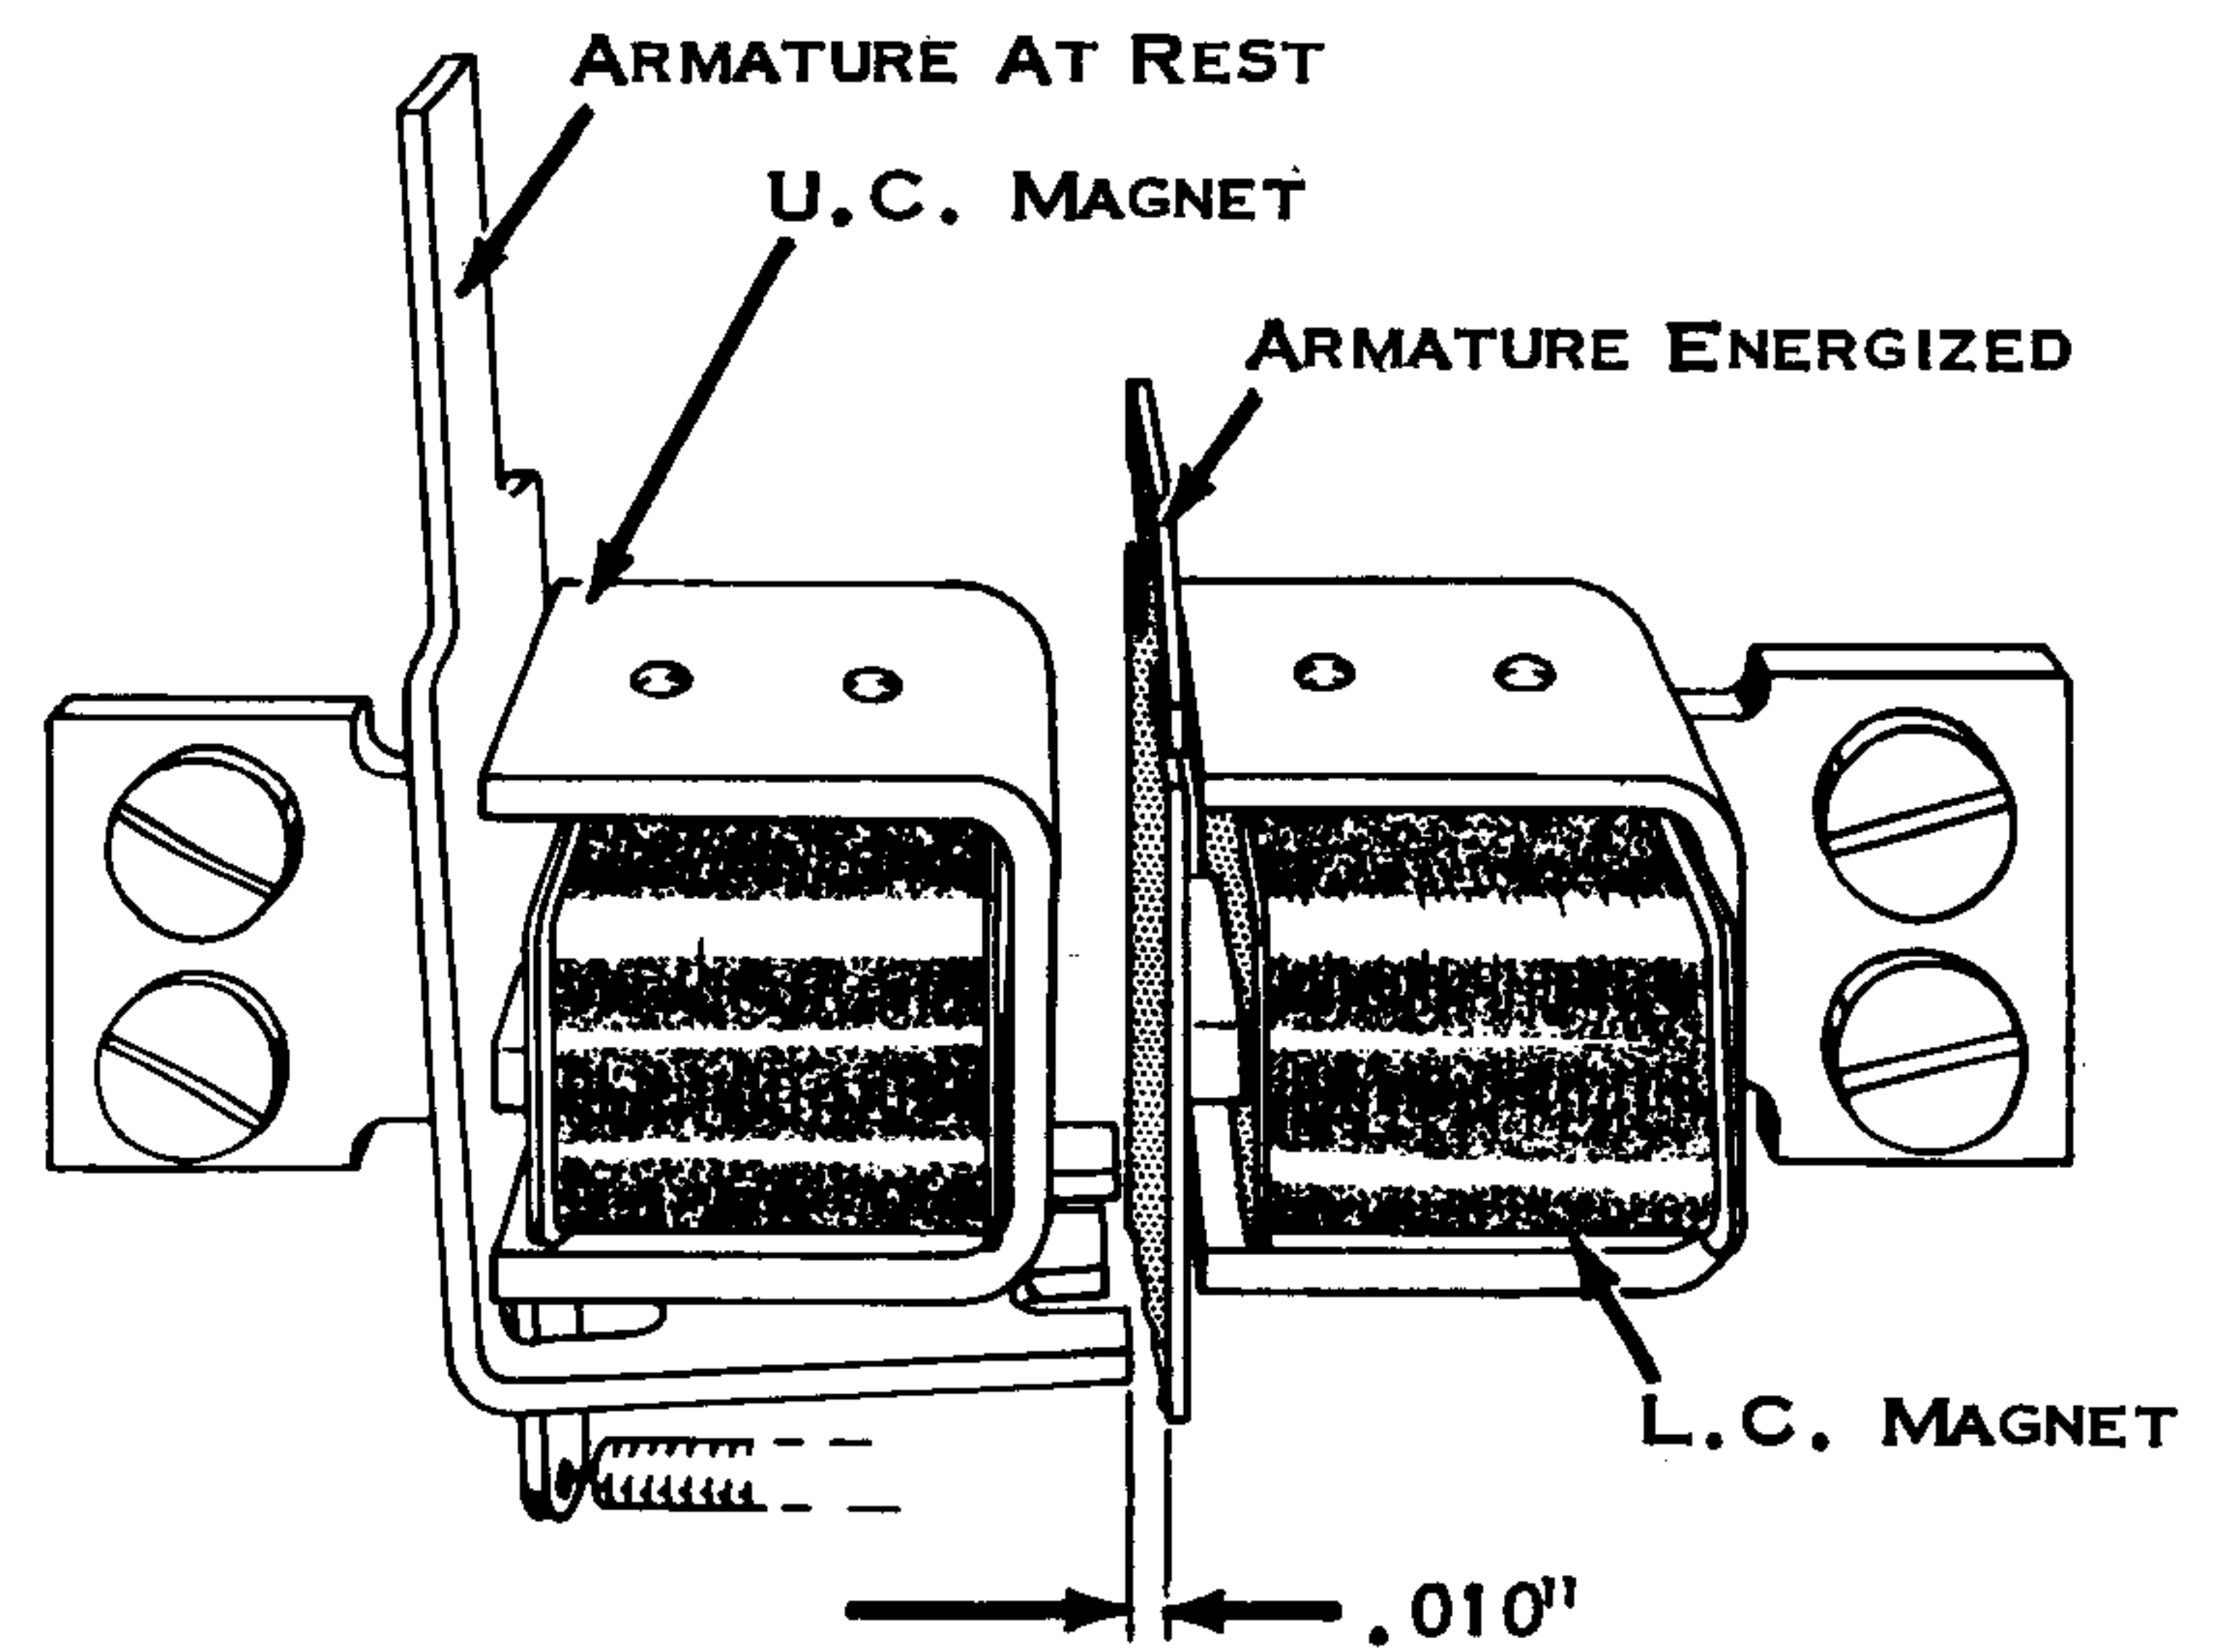

Figure 96. LC Magnet Assembly (Front to Rear)
- a. Front to Rear - LC armature (energized) clears the UC armature (at rest) by .010" (Fig. 96).